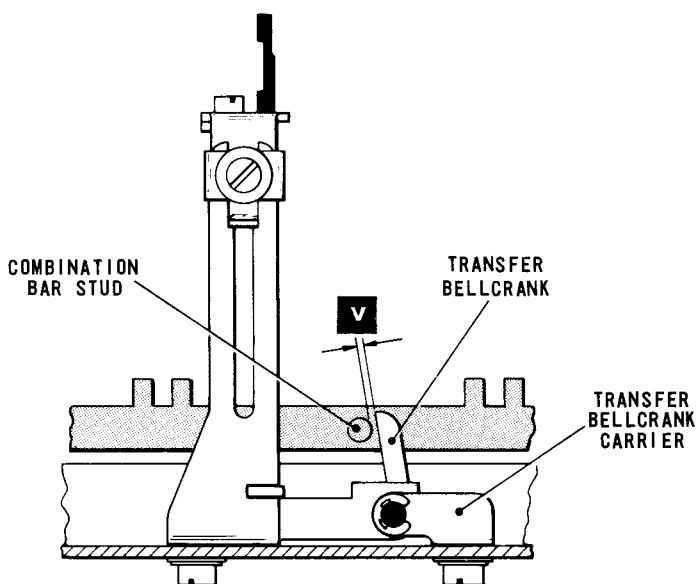

Fig. 4.17 PUSH ROD LIFT
- 22.1 With the keyboard in the reset position, check that the clearance between the operating faces of the transfer bellcranks, Fig.4.17, and each of the studs on the combination bars is not more than .005 in. (dimension 'v').